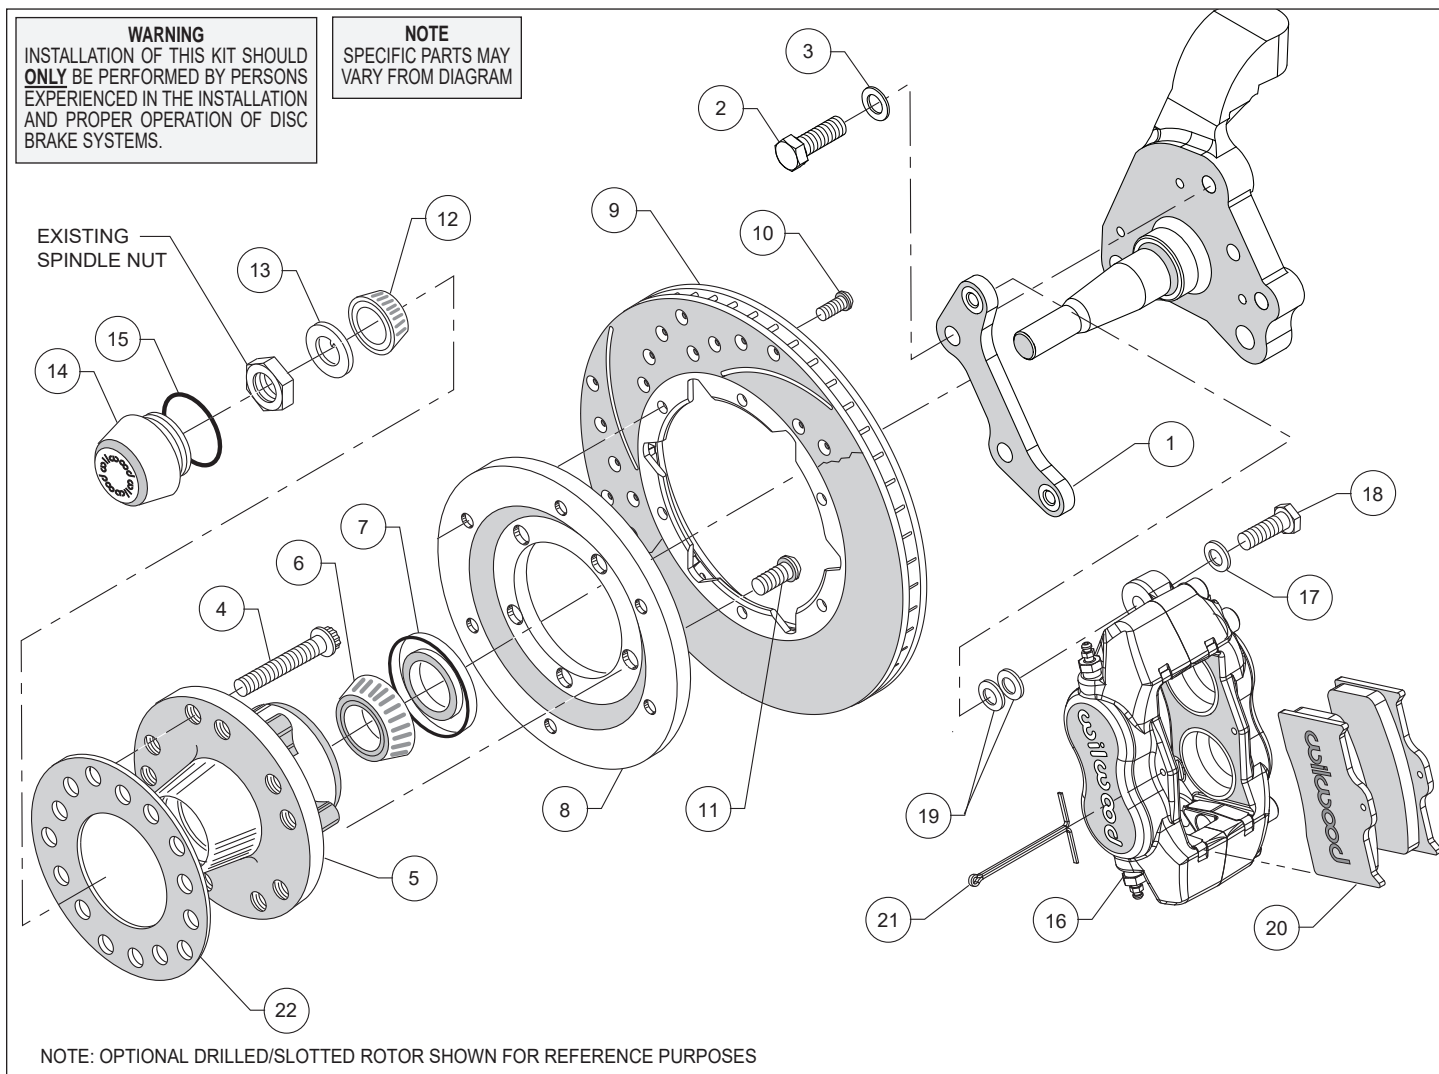
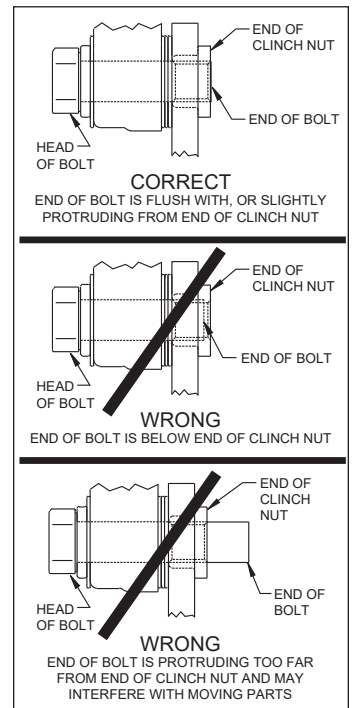

Figure 1. Typical Installation Configuration
Figure 3. Clinch Nut Engagement Diagram
Assembly Instructions (numbers in parenthesis refer to the parts list, on the preceding page and Figure 1): **CAUTION:** All mounting bolts must fully engage clinch nuts. Be sure to check that all bolts are either flush or protruding through flanged side of clinch nut after shimming, Figure 3.
- Align caliper mounting bracket (1) with the corresponding holes, to the face of the spindle. Attach using bolts (2), and washers (3), as shown in Figure 1 and Photo 1. Temporarily tighten the mounting bolts. Ensure that the flanged heads of the clinch nuts in the bracket are facing outboard, Photo 1. **NOTE:** The bracket must fit squarely against the mounting points on the spindle. Inspect for interference from casting irregularities, machining ridges, burrs, etc. Remove bolts one at a time, apply red *Loctite*® 271 to threads and torque to 77 ft-lbs.
- Install the grease seal (7) by pressing into the backside of the hub (5), flush with the end of the hub, Photo 3.
- Orient the rotor (9) and the rotor adapter (8) as shown in Figure 1 and Photo 4. Attach the rotor to the adapter using bolts (10). Using an alternating sequence, apply red *Loctite*® 271 to the threads, and torque to 25 ft-lb.
- Mount the adapter/rotor assembly (8/9) to the hub (5) using bolts (11), as shown in Figure 1 and Photo 5. Using an alternating sequence, apply red *Loctite*® 271 to the threads, and torque to 45 ft-lb.
- Screw dust cap (14) into hub (5), Photo 7. Friction created by the o-ring (15) on the dust cap keeps it from unscrewing. **NOTE:** The O.D. of the existing OEM spindle washer may be larger than the I.D. of the dust cap not allowing it to seat against the hub face. Therefore, use the spindle washer (13) supplied with the kit instead of the OEM washer.
- NOTE:** Please reference the caution statement at the beginning of the assembly instructions. Mount the caliper (16) onto the caliper mounting bracket (1) using bolts (18) and washers (17), as shown in Figure 1. Initially place two .035" thick shims (19) on each bolt between the caliper and the bracket, Photo 8. Temporarily tighten the mounting bolts and view the rotor (9) through the top opening of the caliper. The rotor should be centered in the caliper, Photo 9. If not, adjust by adding or subtracting shims between the bracket and the caliper. Always use the same amount of shims on each of the two mounting bolts. **NOTE:** The end of each bolt must be flush with or slightly protruding from the head of the clinch nut, as shown in Figure 3. If necessary place spare shims between washer (17) and caliper mounting ear to achieve the proper clinch nut engagement. Once the caliper alignment and clinch nut engagement are correct, remove the bolts one at a time, apply red *Loctite*® 271 to bolt threads, and torque to 40 ft-lb.